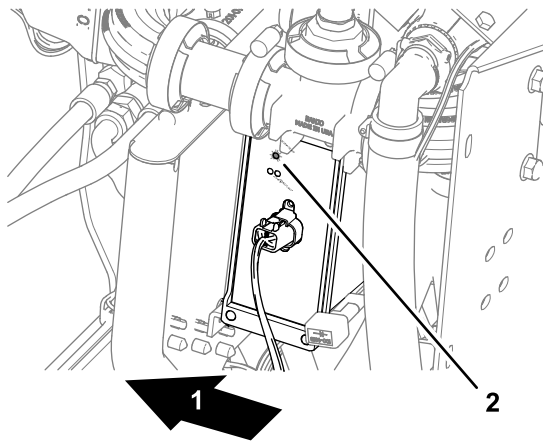

Figure 113
- Automatic section controller—the STATUS indicator illuminates (Figure 113).